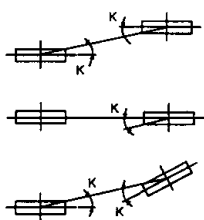

figure 1 Parallel degree of pulley
1. Set the parallel angle of the fan and the motor pulley as shown in the table and figure 1 below.
2. Set the tension of the per one belt when the flexion load is within the range as shown in the figure 1 and table 2 below at the proper flexion. ($A=0.016 \times C$ mm)